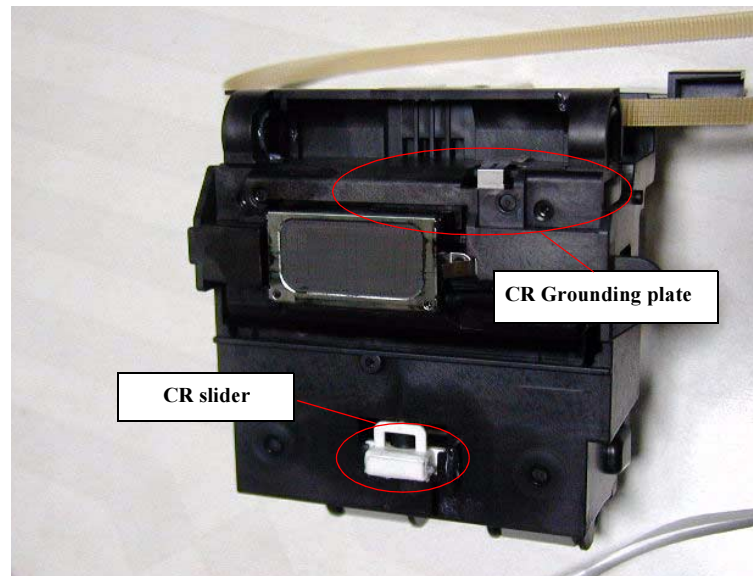

Figure 4-48. Grounding plate assembling position
- If you disassemble the CR unit after removing the CR unit from the printer, make sure that the CR Grounding plate is assembled in the suitable position in the CR unit. Refer to Figure 4-48.